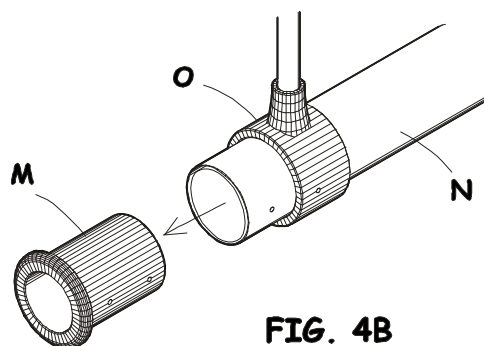

FIG. 4B
- Clamp onto the end of the plastic axle end **M** with a pair of pliers and pull it out (FIG. 4B).